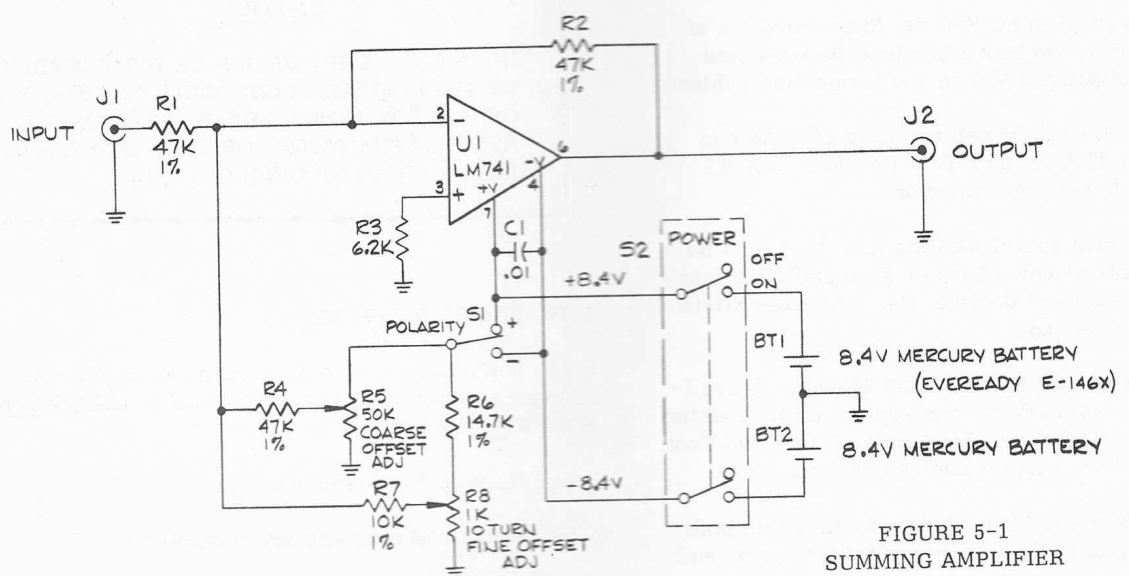

FIGURE 5-1
i. A Schematic Diagram of a Summing Amplifier used in certain counter tests, is shown in Figure 5-1. This unit may be constructed by the user, or may be purchased directly from EIP (Part Number 2010050).
\* See Figure 5-1.